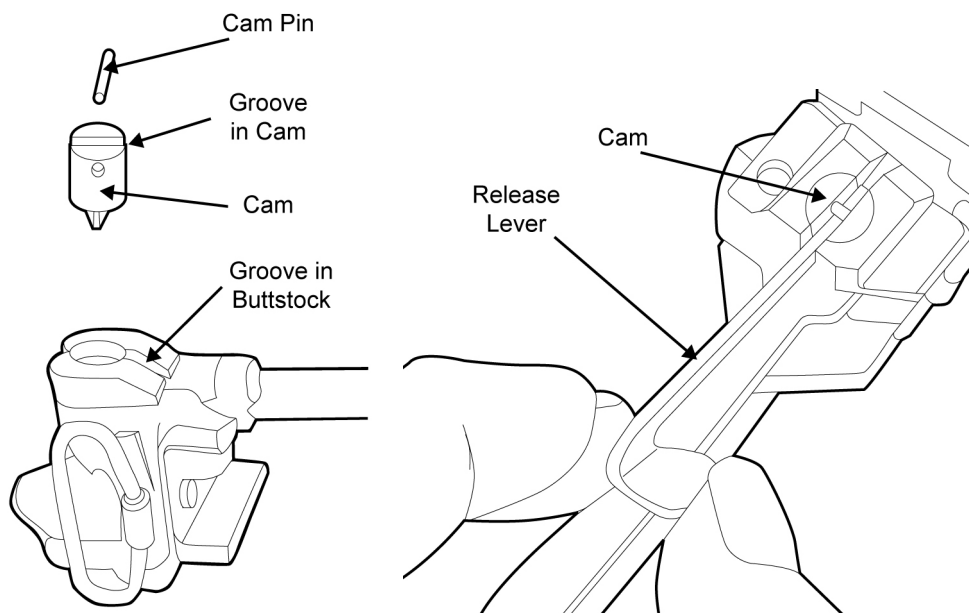

Figure 51. Installing the Cam Pin, Cam, and Release Lever.
- a. If removed, insert the cam pin into the cam, ensuring it is flush. Install the cam, flat end facing out, into the side folding buttstock. Ensure that the groove in the cam aligns with the groove in the side folding buttstock. Insert the release lever into the aligned grooves, ensuring that it is under the cam pin. Refer to Figure 51.